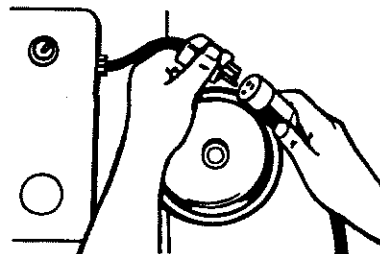

Figure 3
- AC Models (figure 3) — Use a 12 gauge (3.3mm²) 3-wire industrial grade extension cord—50 ft. (12.7m) maximum length—to reach a grounded 15A AC supply.